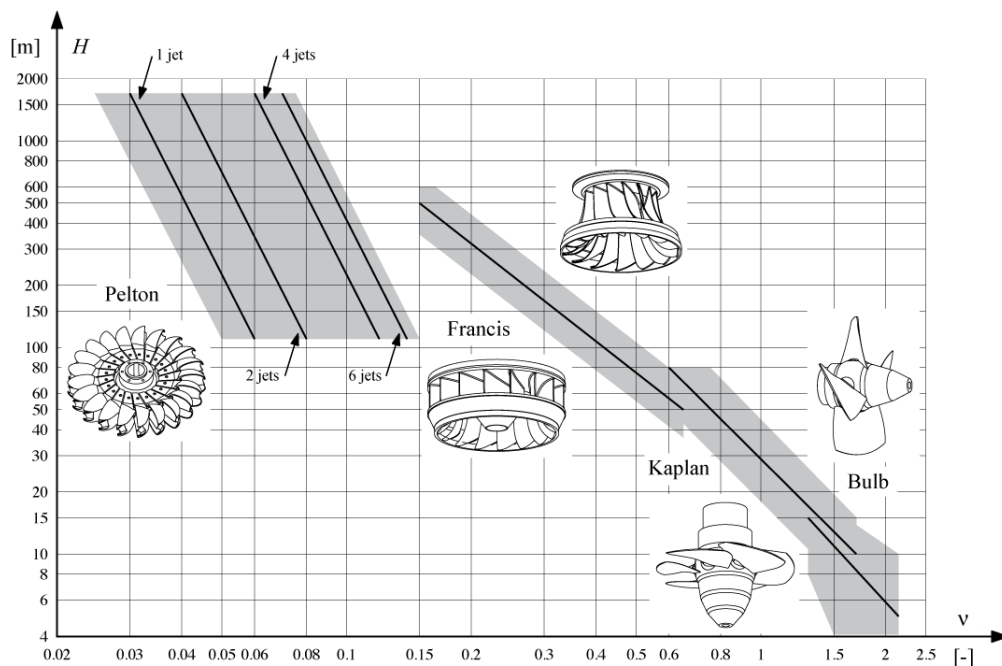

Figure 1: Turbine type depending on specific speed v and head H
- 2) Calculate the specific speed v and, using Figure 1, select a suitable turbine type for the power plant.